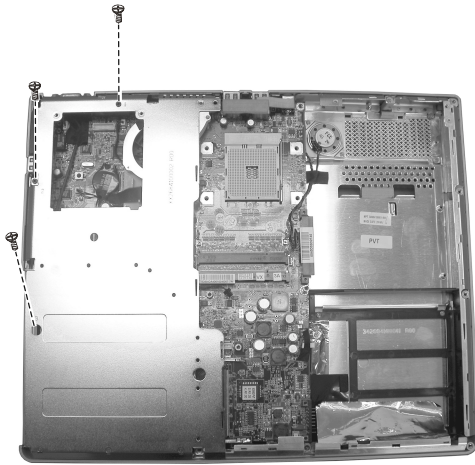

Figure 2-25 Remove the three screws
4. Remove the three screws and lift up the housing's shielding. (Figure 2-25)